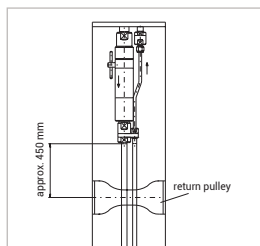

Figure 1
- ▶ If you use the WEH® Product without a WEH® Dispenser mounting, a return pulley must be installed at a distance of approx. 450 mm from the lower edge of the breakaway coupling (*Figure 1*).